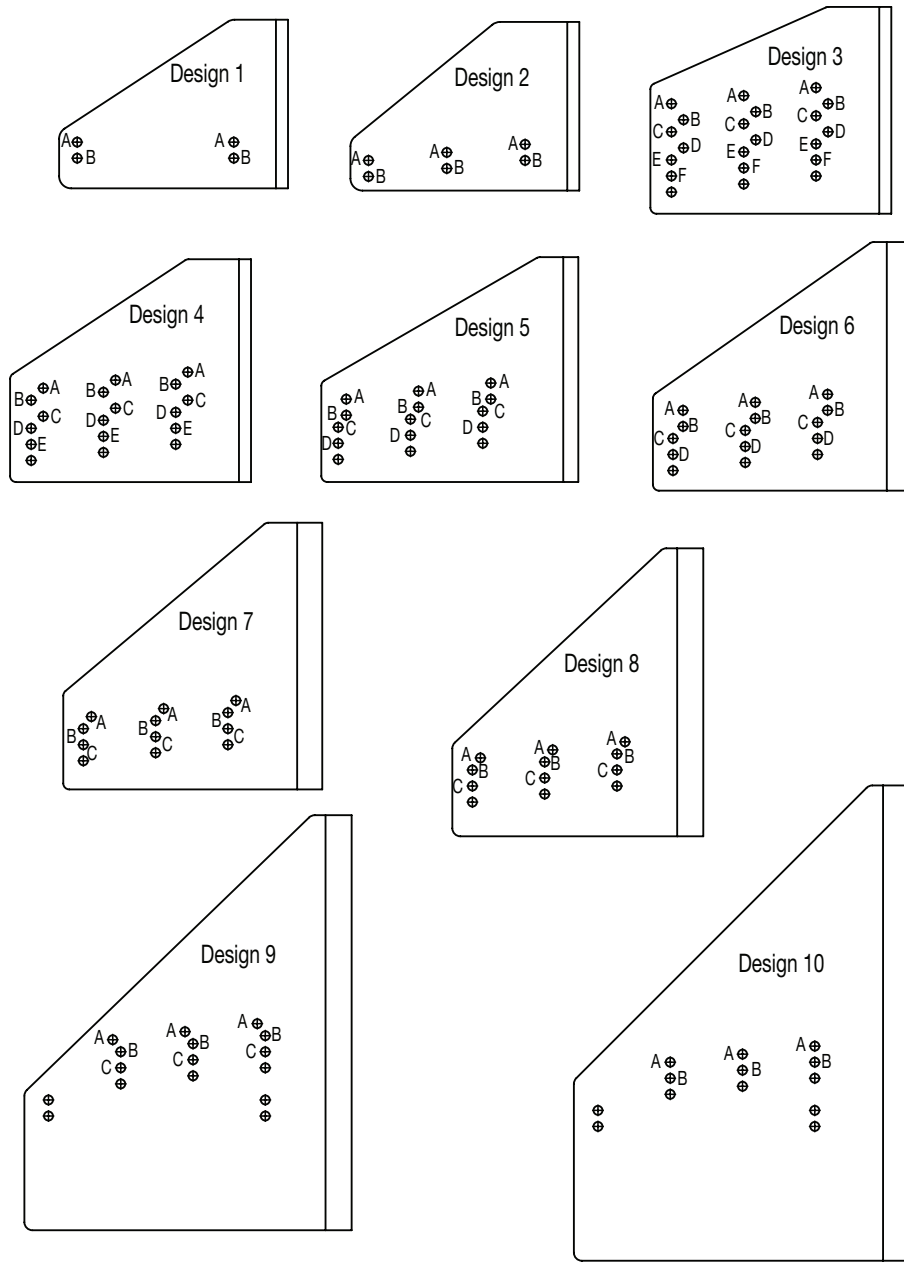

Figure 8 - Side Plate Hole Locations
Scoops for motor frames 320 and smaller are a bolted design where parts (1), (2) and (3) are assembled together as part of the installation process (Refer to Figure 8). Scoops for motor frames 360 and larger are a fabricated design where parts (1), (2), and (3) are welded together at the factory and arrive as a single part within the scoop kit. With this in mind, the assembly process varies slightly based on motor frame size.
1. Refer to Table 9 and Figures 8 & 9 during assembly of the scoop motor bracket for parts identification and important assembly information. Place the left (1) and right (2) side plates and the bottom plate (3) in front of the input side of the reducer. Orient the bottom plate (“U” up or “U” down) based on Table 9. Identify and remove the reducer cover bolts necessary for installation of the side plates. Remove only those cover bolts or you may rupture the oil seal between the end cover and reducer housing.
2. Assemble the side plates (1) and (2) onto the reducer using the longer bolts (4) and flat washers (5) furnished with the scoop kit. Do not fully tighten the bolts at this time as you will need sideways movement to assemble the bottom plate.
3. Using bolts (6), washers (7) and nuts (8) furnished with the kit, bolt the bottom plate to the side plates using the correct holes as indicated in Table 9 and Figure 8. Do not fully tighten the bolts at this time.
5. Lower the motor into position with the shaft ends separated by the distance determined in step 4. Adjust the bottom plate until the motor mounting bolts can be inserted through the motor feet and the bottom plate. Tighten the bolts (6) holding the bottom plate to the side plates and bolts (4) holding the side plates to the reducer to the recommended tightening torques specified in Table 1.
1. Refer to Table 9 and Figures 8 & 9 during assembly of the scoop motor bracket for parts identification and important assembly information. Place the fabricated scoop consisting of parts (1), (2), and (3) in front of the input side of the reducer. Identify and remove the reducer cover bolts necessary for installation of the fabricated scoop. Remove only these cover bolts or you may rupture the oil seal between the end cover and reducer housing.
2. Assemble the fabricated scoop onto the reducer using the longer bolts (4) and flat washers (5) furnished with the scoop kit. Care should be taken to center the scoop on the reducer; this will provide the most clearance in the motor foundation fasteners and make coupling alignment easier later. Tighten the bolts (4) to the tightening torques specified in Table 1.